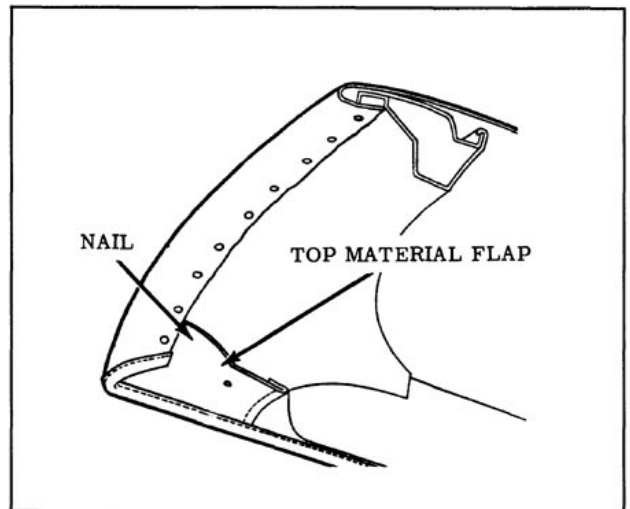

Fig. 16-125 Top Material Attachment at Roof Rail
4. Loosen front end of each side roof rail front weatherstrip sufficiently to detach top material flaps which are nailed and cemented to rails. (Fig. 16-125)